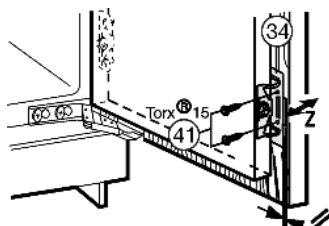

Fig. 23
- ▶ Screw the appliance door to the unit door with screws Fig. 23 (41) passed through the mounting brackets Fig. 23 (34).